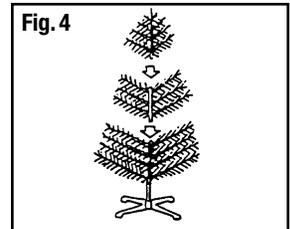

Fig. 4
6. Push bottom of tree top into green plastic "pole cap" at top of center pole until it is firmly seated (Figure 4). Assembly is now complete.
For larger trees with middle section, carefully insert middle section pole(s) into bottom section pole (Figure 4) as instructed in **SPECIAL NOTE ABOUT GIANT TREES** below. Then insert top section into pole cap. *Optional:* You may want to lubricate middle section pole ends prior to assembly. This will make sections easier to separate when disassembling for storage.